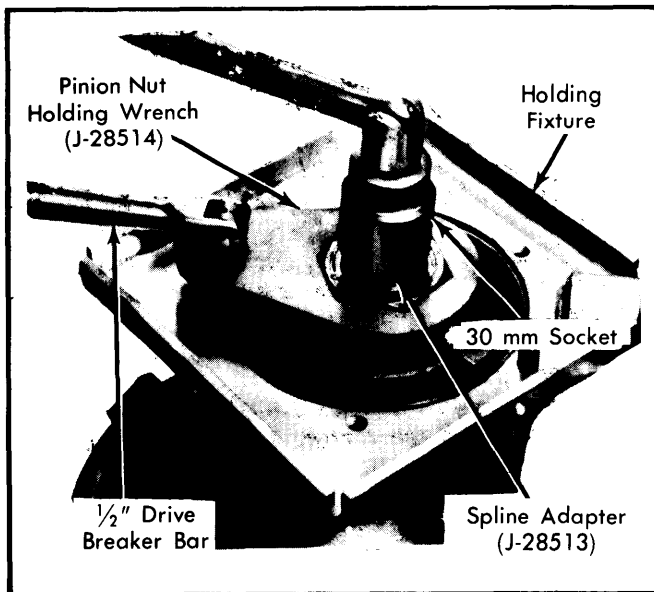

Fig. 7 Removing or Installing Pinion Nut
2) Using spline adapter (J-28513) and suitable wrench (J-28514), tighten pinion nut until end play begins to be taken up. Fig. 7. When no further end play is felt, use spline adapter (J-28513) and suitable torque wrench to check preload. Continue tightening nut and checking preload until specified preload is obtained.